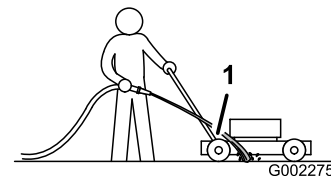

Figure 21
3. Hold the running garden hose at handle level and direct the water to flow on the ground just in front of the right rear wheel (Figure 21).